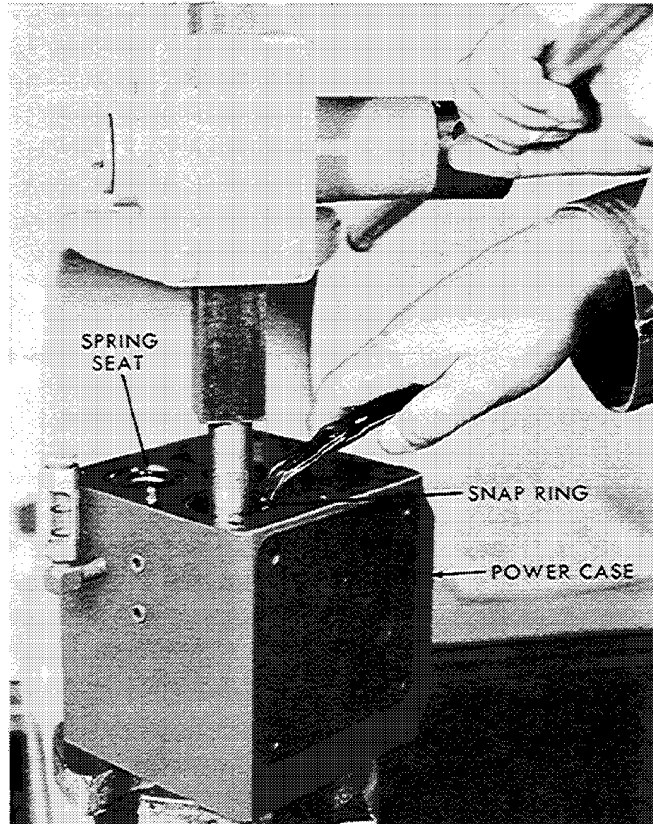

Figure 3-5
6. Remove screws (45) and washers(44). Lift off base (43) taking care that idler gear (40) and drive gear (38) do not fall out. Remove the idler gear and drive gear.
7. Set the power case (28), bottom end (end with idler stud 39) down, in an arbor press or small drill press. With a rod against spring seat (24), compress accumulator springs (25) and (26) to permit removal of upper snap ring (23). See Figure 3-5. Remove spring seat (24) and springs (25) and (26).